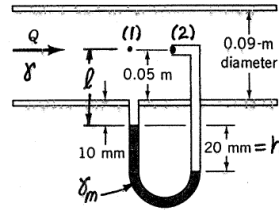

FIGURE P3.67
3.67 The specific gravity of the manometer fluid shown in Fig. P3.67 is 1.07. Determine the volume flowrate,  $Q$ , if the flow is inviscid and incompressible and the flowing fluid is (a) water, (b) gasoline, or (c) air at standard conditions.